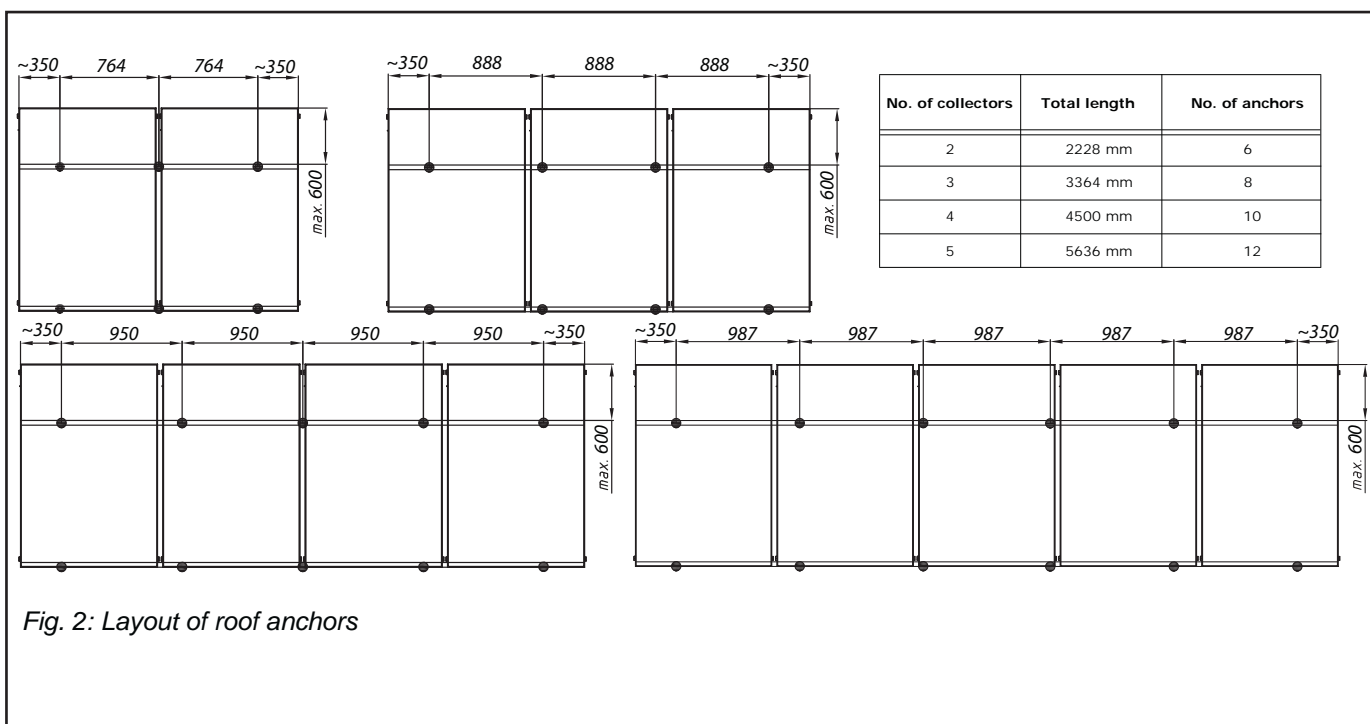
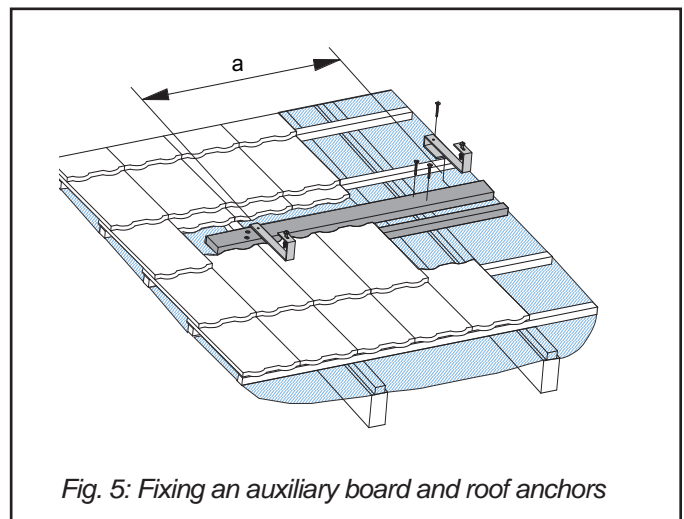
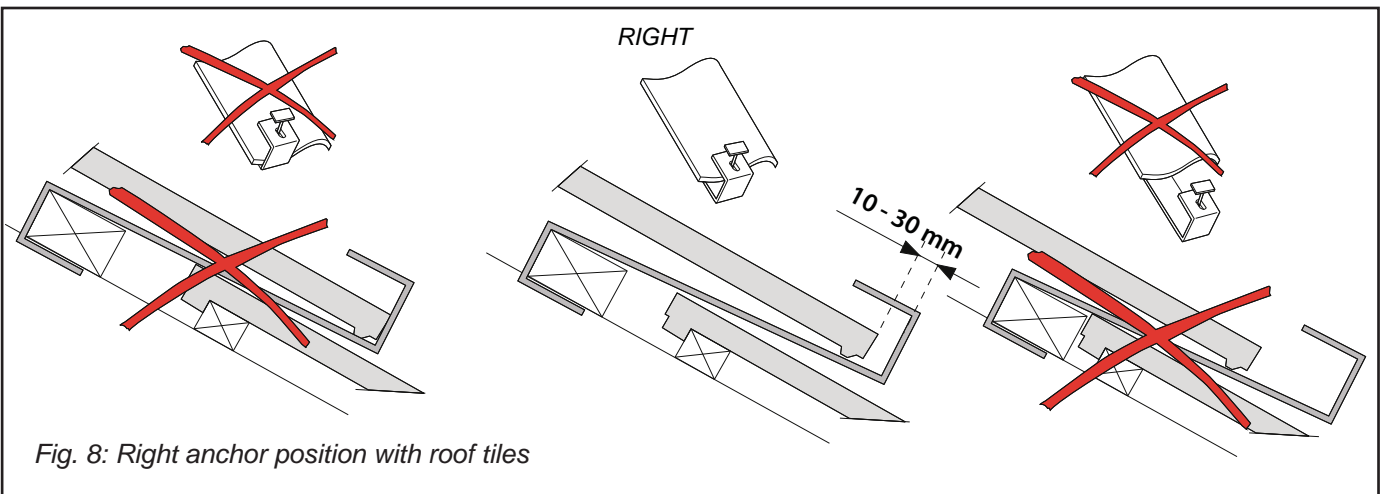

Fig. 2: Layout of roof anchors
Fig. 5: Fixing an auxiliary board and roof anchors
Fig. 8: Right anchor position with roof tiles
- Fix the auxiliary boards to battens so that the distribution of anchors resembles the positions in Fig. 2. At the same time screw the boards so high that the roof anchor does not hinder placing the roof tile with the right overlap (see Fig. 8)..
- Hook the roof anchors onto the auxiliary board respecting their distribution shown in Fig. 2.
- Remove roofing in places where anchors shall be fixed (Fig. 5). The distance “a” between anchors is defined in Fig. 2.
- Depending on the number of collectors, measure and calculate the positions for fixing roof anchors (Fig. 2). Such places shall be selected for mounting where anchors can be fixed sufficiently into the roof frame (rafter or similar).